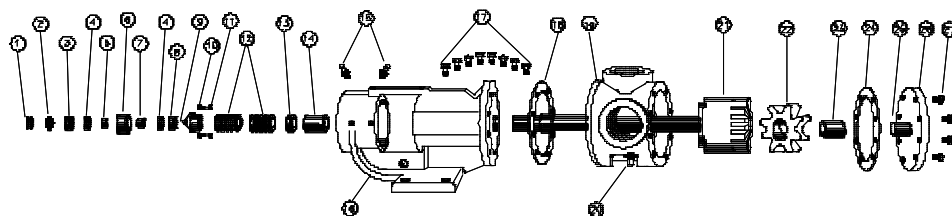

Figure 1
- Loosen both setscrews over the outer and inner end caps. See figures 1 and 3.
- Using a spanner wrench, turn inner end cap (8) clockwise, viewed from the motor end, until it projects from bracket (16), exposing approximately three threads.
- Turn the outer end cap (3) clockwise, by hand, until rotor is tight against the pump head (26) and rotor/shaft (21) can not be turned.
- Make a reference mark on the bracket end, opposite a notch on the outer end cap (3). Back off outer end cap (3) counterclockwise nine notches. Each notch represents 0.001 inch (0.0254mm) end clearance.
- The pumps adjustment collar mechanism consists of two capscrews (11), one on each side. They may be tightened to decrease the dripping or loosened to increase the dripping. See figure 1.